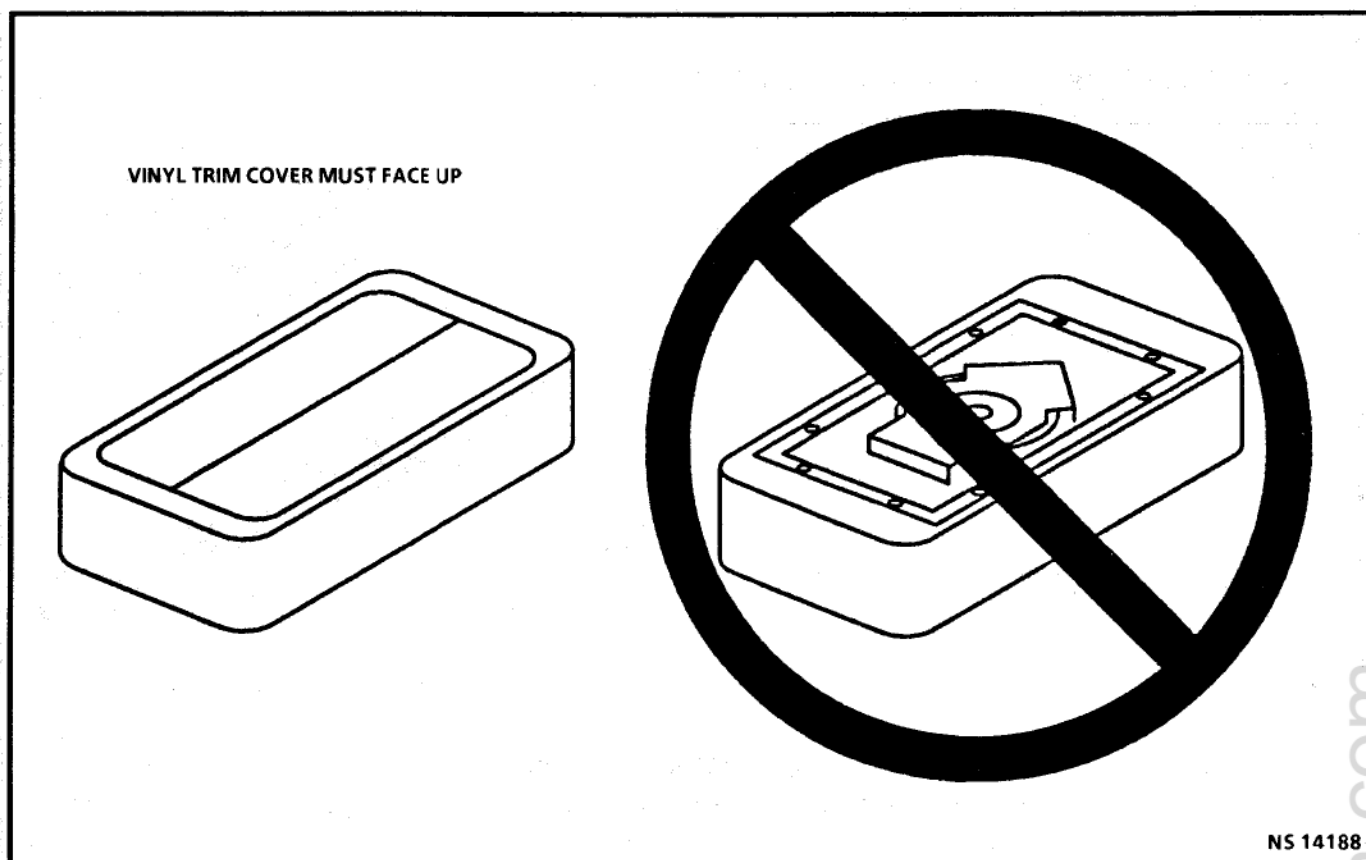

Figure 17 - Proper Storage of Inflator Module
8. Place the driver inflator module on a work bench or other surface away from all loose or flammable objects with its vinyl trim cover facing up, away from the surface (Figure 17).